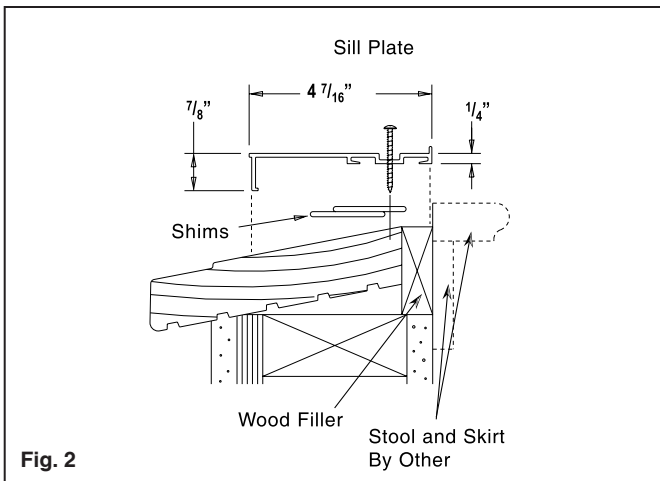
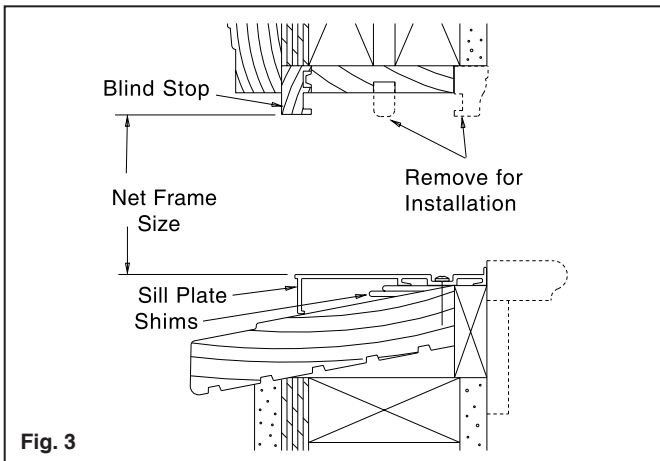

Fig. 2
Fig. 3
A. Measure the opening in your existing window. The narrowest measurements in your window opening, excluding the fixed and rolling panels, will be the daylight opening. Measure daylight opening at the ends and the center. See **Fig. 1**. Deduct 1/2" from the height of the daylight opening dimension. A 1/4" of this deduction is considered for the interior leg of the Sill Plate. See **Fig. 2**. Deduct 1/4" from the width dimension, this will determine the "net frame size". See **Fig. 3**.
A. The existing wood frame may need to be modified to accommodate the new frame. Removal of certain parts of the frame will be needed. See **Fig. 1**. An additional frame block may be needed to support the Sill Plate towards the interior. See **Fig. 3**. Sill Plate should be cut to fit over existing sill and touch both existing jambs.